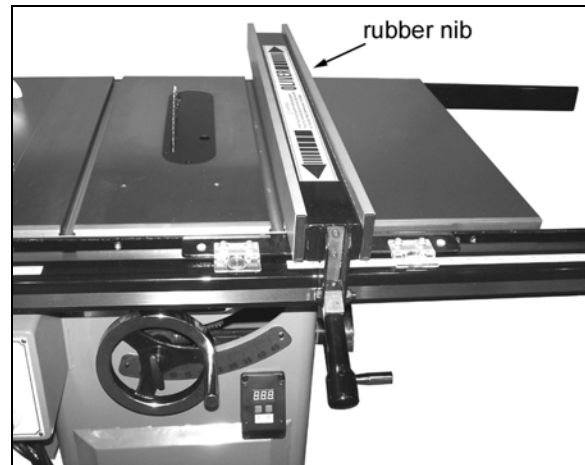

Figure 7
1. Place the fence on the guides as shown in Figure 7. Look for the rubber nib on the underside of the fence as shown and make sure it lines up with the back support rail.
2. Align the fence with the miter gauge slot as shown in Figure 7 and check to see if the fence is parallel to the slot.